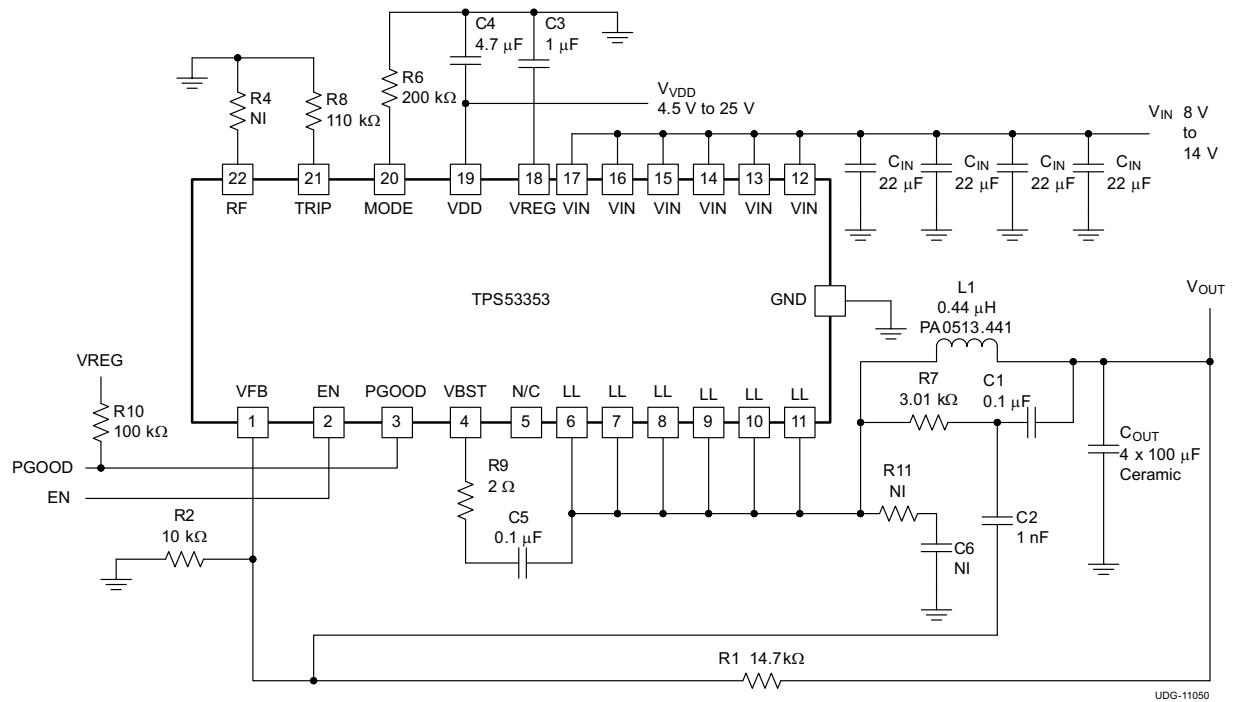

Figure 41. Typical Application Circuit Diagram With Ceramic Output Capacitors
When a ceramic output capacitor is used, the stability criteria in Equation 6 cannot be satisfied. The ripple injection approach as shown in Figure 41 is implemented to increase the ripple on the VFB pin and make the system stable. In addition to the selections made using Steps 1 through Step 6 in the section, the ripple injection components must be selected. The C2 value can be fixed at 1 nF. The value of C1 can be selected from 10 nF to 200 nF.
- Connect the ripple injection V_{OUT} signal (V_{OUT} side of the C1 capacitor in Figure 41) from the terminal of ceramic output capacitor. The AC coupling capacitor (C2 in Figure 41) should be placed near the device, and R7 and C1 can be placed near the power stage.